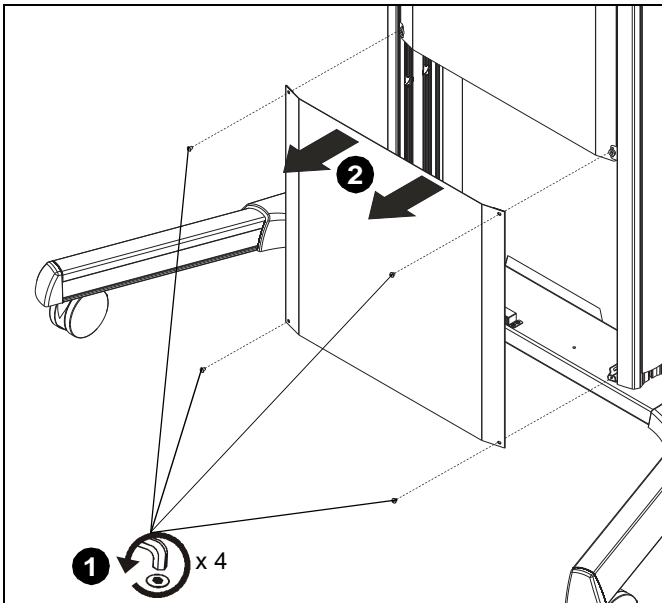

Figure 11
1. Remove four button head cap screws holding lower front cover to cart. (See Figure 11)
2. Pull lower front cover away from cart. (See Figure 11)